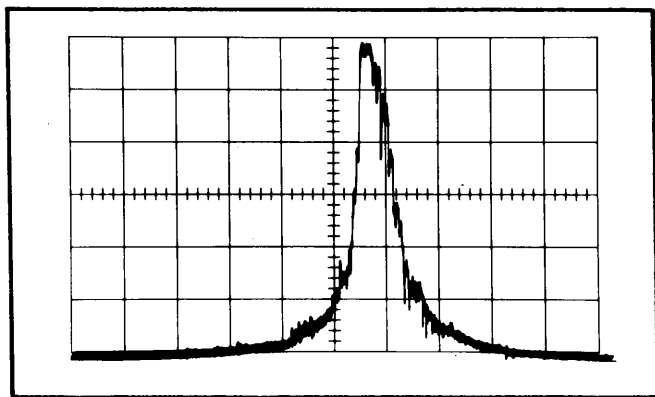

Fig. 6-21. Display to illustrate measurement of incidental FM. Measure the horizontal displacement of the signal at the highest vertical slope of the signal.
e. Check the amount of incidental FM at the 50% or half amplitude point of the signal. Should not exceed 5 millimeters (Fig. 6-21).